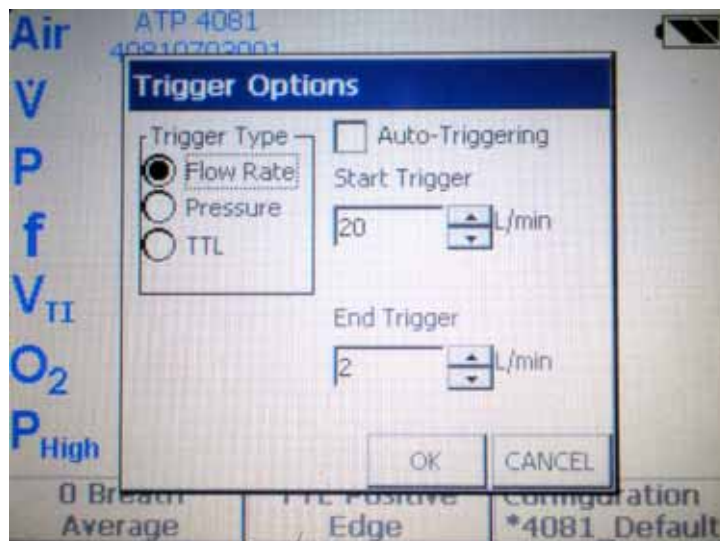

Figure 8-6: Trigger Options Screen
2. Select Flow Rate (refer to Figure 8-6) and verify Auto-Triggering is **not** checked.
3. Use the up or down direction arrows to select 20 L/min for Start Trigger and 2 L/min for End Trigger (refer to Figure 8-6).
4. When the appropriate parameters are selected, touch **OK** (refer to Figure 8-6).